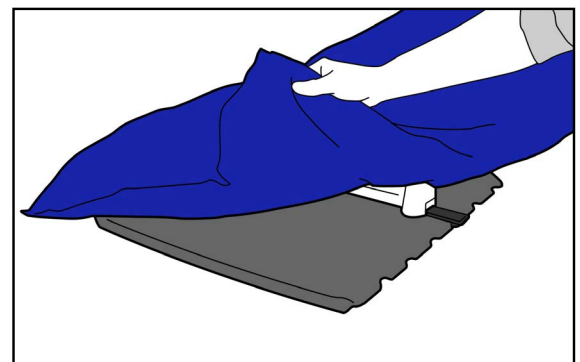

Fig. 6
3. Fill the cushion with enough air so that the folds and creases are eliminated. Then, place the cushion over the indexer(s) (Fig. 6).